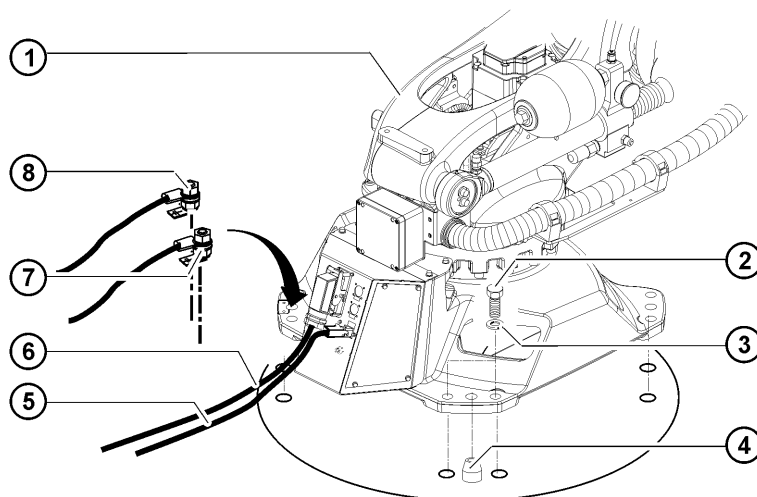

Fig. 8-3: Installing the robot
1. Check that both pins (>>> Fig. 8-3) are undamaged and fitted securely.